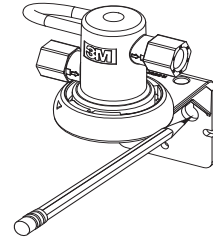

Figure 2
3. Using filter head assembly as a guide, fasten filter head assembly to wall with fasteners. (See Figure 2)